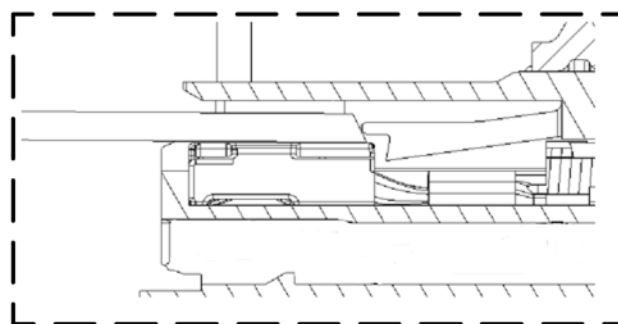

Figure 12
4. Insert the GM service terminal extraction tool (J-38125-215A), which can be obtained by a SPX service solutions representative, into the selected exposed cavity as shown in Figure 12.
6. Using the GM service extraction tool (J-38125-215A), gently deflect the plastic terminal latch within the plug housing. See Figure 12.